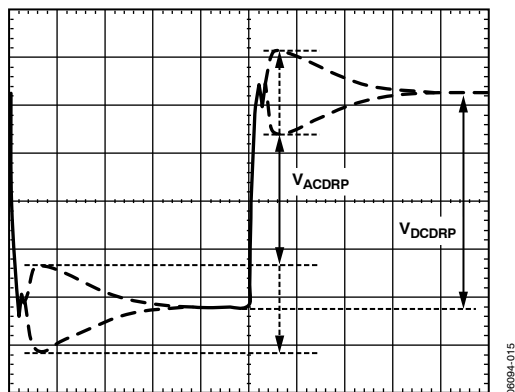

Figure 17. AC Load Line Waveform
- Measure the output waveform (use dc offset on scope to see the waveform). Try to use a vertical scale of 100 mV/div or finer. This waveform should look similar to Figure 17.
15. Use the horizontal cursors to measure  $V_{ACDRP}$  and  $V_{DCDRP}$  as shown in Figure 17. Do not measure the undershoot or overshoot that happens immediately after this step.